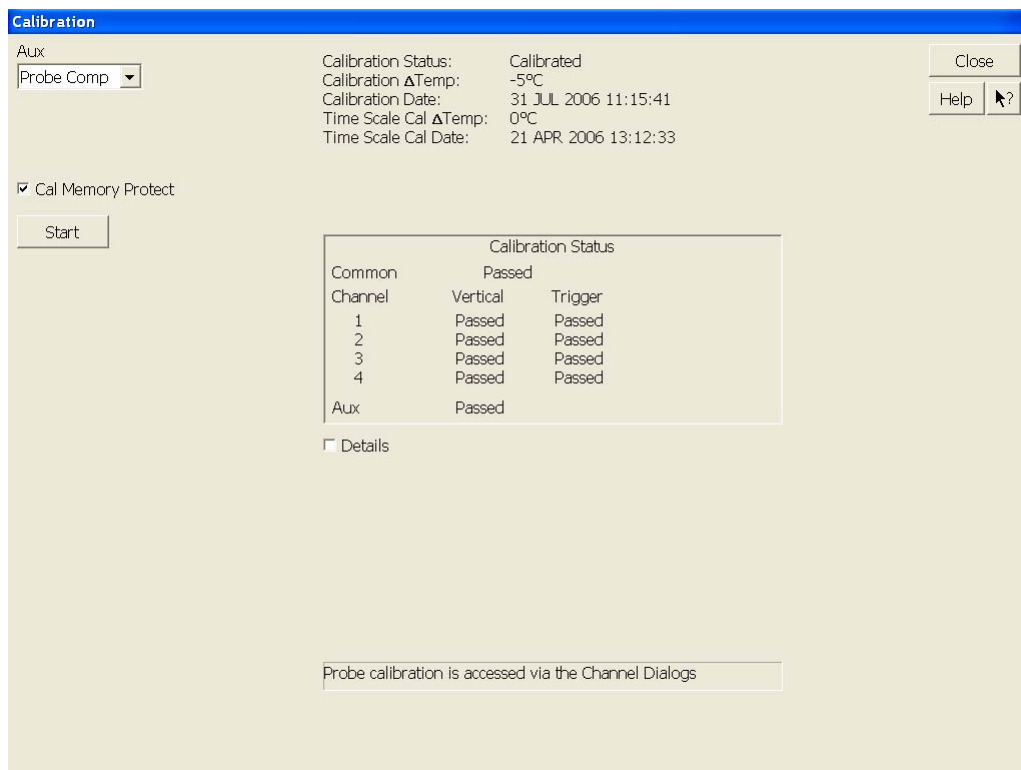

Figure 82 Oscilloscope Calibration Window
- 4 Referring to Figure 82 below, perform the following steps to start the calibration: